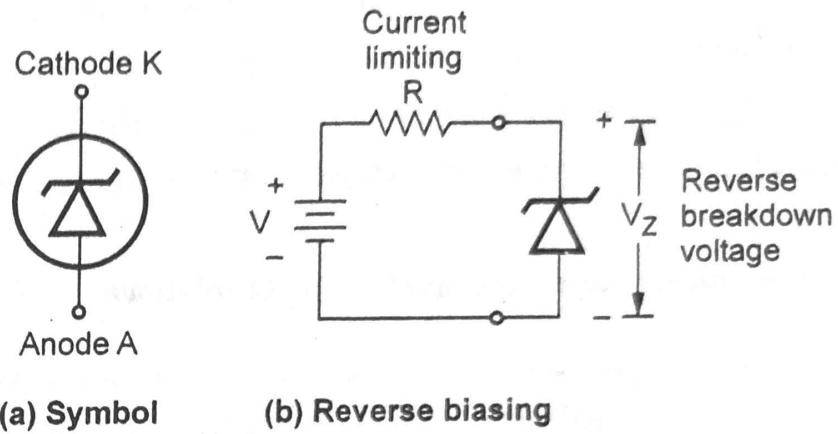

Fig. Q.13.1 Zener diode
- The Fig. Q.13.1 (a) shows the symbol of zener diode while the Fig. Q.13.1 (b) shows the operation of zener diode in reverse breakdown region.